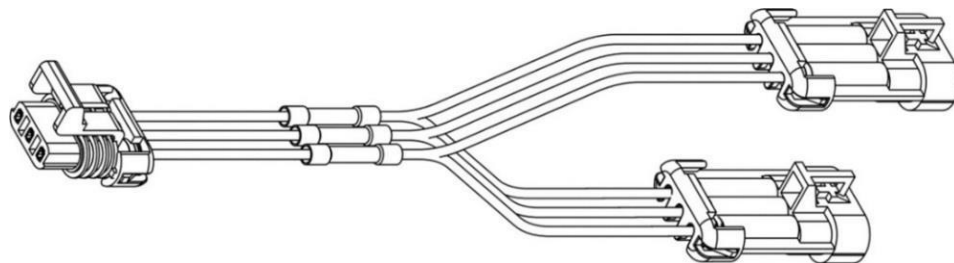
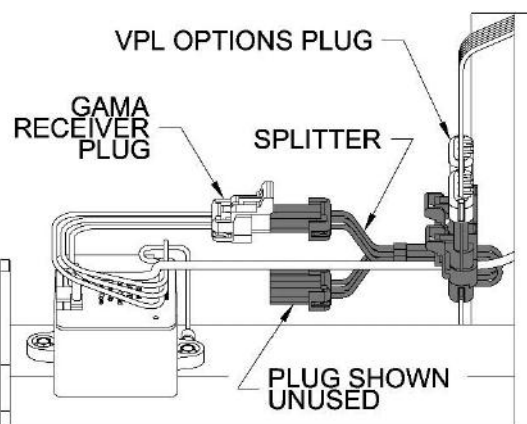

FIG. 8.8
FIG. 8.9
- 8.3.10. Install splitter (FIG. 8.8) by plugging it into the VPL options plug and the receiver plug (FIG. 8.9).